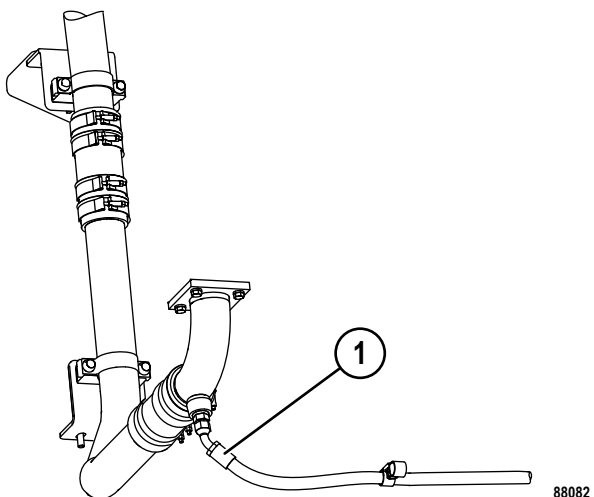

FIGURE 50-10. SERVICE CENTER HOSE
20. Disconnect coolant hose (1, Figure 50-10) from the coolant pipe beneath the radiator. Plug the hose and port. Move the hose away from engine compartment to prevent interference with power module removal.